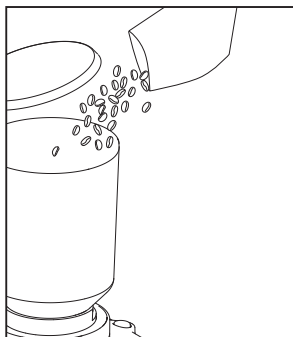

Fig. 2
2. Fill the bean hopper with coffee beans. (Fig. 2)